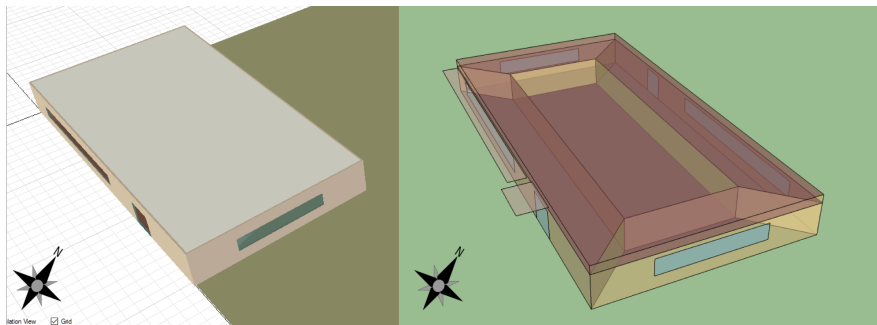

Figure 1.1: Single story building with 5 zones, located in Chicago, IL
**LAYOUT** The building under consideration is a 1 story building. (Fig 1.1) The building is located in Chicago, IL. The building is oriented 30 degrees east of north. The total floor area is  $463.6\text{m}^2$  ( $100 \times 50$ )ft. It is divided into 4 exterior/peripheral and one interior conditioned zones and a return plenum. The zone height is 8 feet and the return plenum height is 2 feet. The overall building height is 10 feet. There are windows on all 4 facades; the south and north facades have glass doors as well. The window to wall ratio is approximately 0.29.